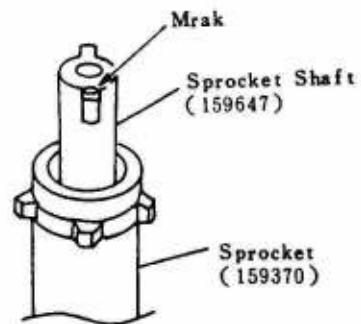

Fig 29
- b) Insert the Sprocket Shaft (159647) to the Sprocket (159370) in the position as shown (Fig 29) and set in into the camera body while mark of Sprocket Shaft is face of film rail plane.